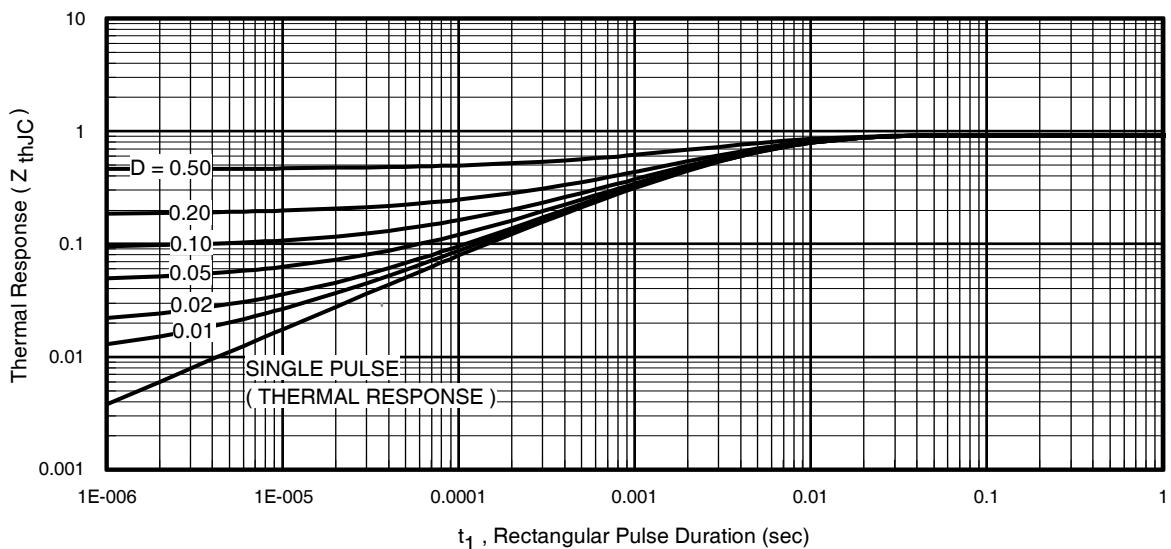

Fig 11. Maximum Effective Transient Thermal Impedance, Junction-to-Case
- ① Repetitive rating; pulse width limited by max. junction temperature. (See fig. 11).
- ② Limited by $T_{J\text{max}}$, starting $T_J = 25^\circ\text{C}$, $L = 0.27\text{mH}$, $R_G = 25\Omega$, $I_{AS} = 35\text{A}$, $V_{GS} = 10\text{V}$. Part not recommended for use above this value.
- ③ $I_{SD} \leq 35\text{A}$, $\text{di}/\text{dt} \leq 380\text{A}/\mu\text{s}$, $V_{DD} \leq V_{(\text{BR})\text{DSS}}$, $T_J \leq 175^\circ\text{C}$.
- ④ Pulse width $\leq 1.0\text{ms}$; duty cycle $\leq 2\%$.
- ⑤ C_{oss} eff. is a fixed capacitance that gives the same charging time as C_{oss} while V_{DS} is rising from 0 to 80% V_{DSS} .
- ⑥ This value determined from sample failure population, starting $T_J = 25^\circ\text{C}$, $L = 0.27\text{mH}$, $R_G = 25\Omega$, $I_{AS} = 35\text{A}$, $V_{GS} = 10\text{V}$.
- ⑦ This is applied to D²Pak, when mounted on 1" square PCB (FR-4 or G-10 Material). For recommended footprint and soldering techniques refer to application note #AN-994.
- ⑧ R_θ is measured at T_J approximately 90°C .
- ⑨ This is only applied to TO-220AB package.
- $Z_{thJC}(D, t_{av})$ = Transient thermal resistance, see figure 11)